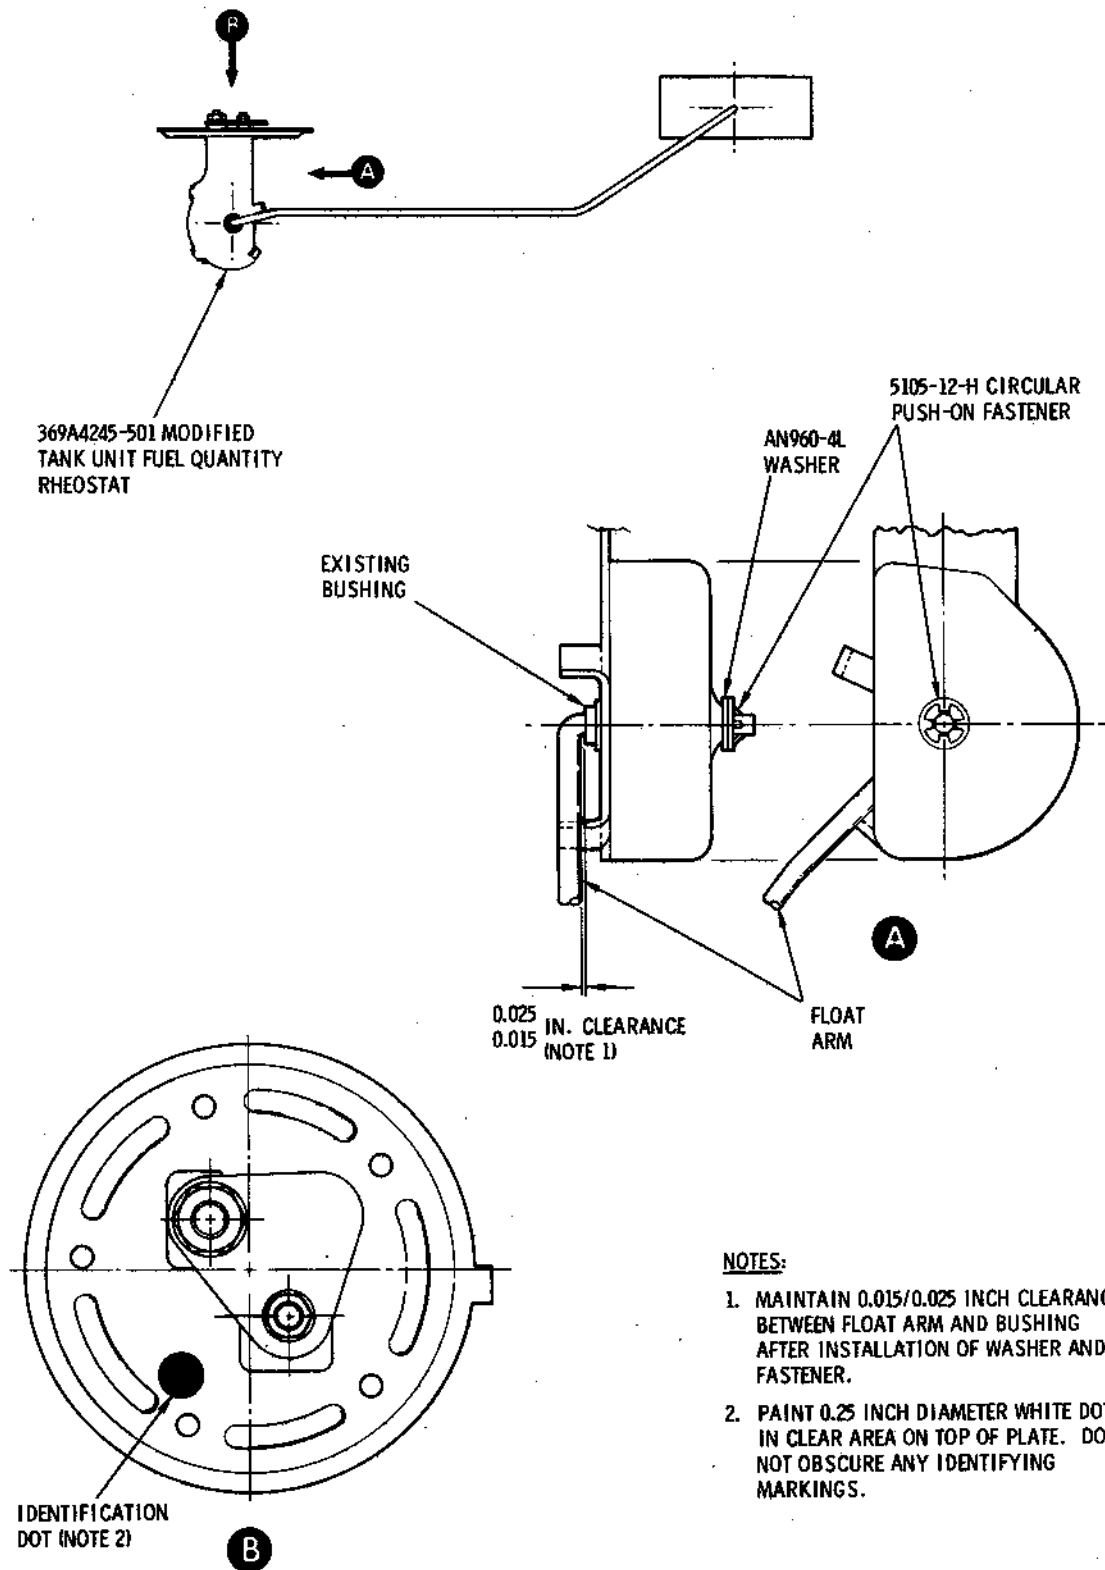

Figure 1. Rework of Tank Unit Fuel Quantity Rheostat,
- e. Modify tank unit by installing washer and fastener at end of float shaft, as shown in Figure 1; check for 0.015/0.025 inch clearance between float arm and existing bushing after installation of washer and fastener.